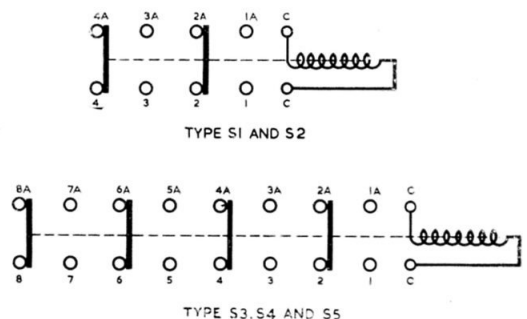

Fig. 4. Circuit diagrams
5. Fig. 4 indicates the terminal markings for each type of switch, and shows the unoperated positions, with even-numbered